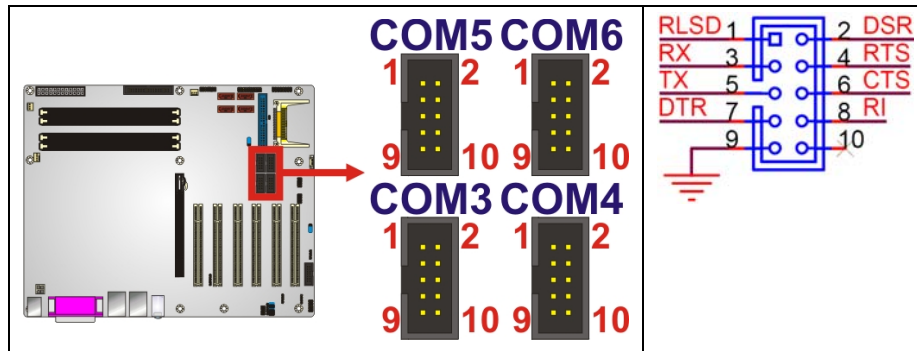

Figure 4-19: Serial Port Connector (RS-232) Pinout Locations
- CN Location:** See Figure 4-19